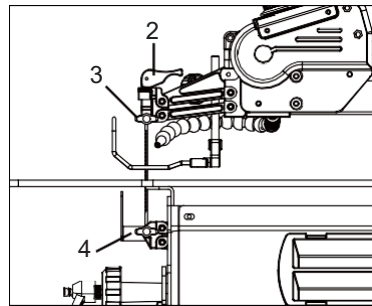

FIGURE 9
2. To remove the blade, rotate the Blade Tension Handle (Fig. 9, 2) upward to relieve tension.
3. Loosen the top blade locking knob (3), then loosen the bottom blade locking knob (4).